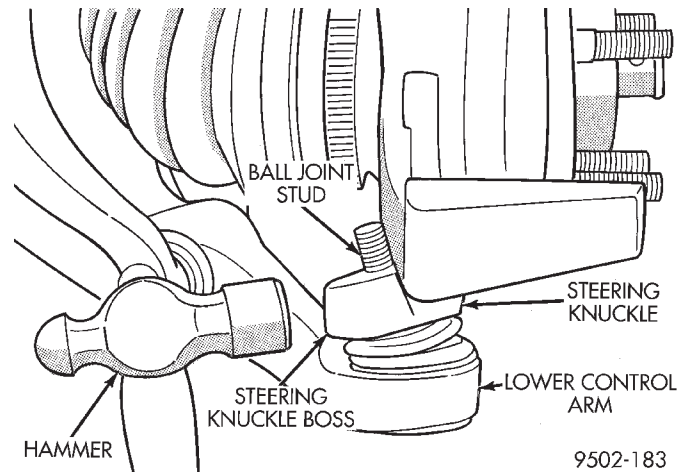

Fig. 10 Separating Ball Joint Stud from Steering Knuckle
(13) Turn steering knuckle so the front of the steering knuckle is facing as far outboard in the wheel well as possible. Using a hammer strike steering knuckle boss until steering knuckle separates from stud of lower ball joint (Fig. 10). **When striking steering knuckle, care MUST be taken not to hit lower control arm or ball joint grease seal.**